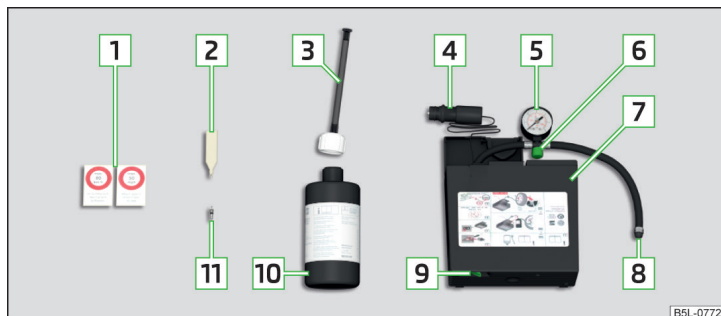

Fig. 124 Description of the breakdown kit
- Insert the valve remover **2** » Fig. 124 on page 112 on the valve insert, so that the valve insert fits into the slot of the valve remover.
- Forcefully shake bottle **10** » Fig. 124 on page 112 several times.
- Screw the tyre inflation hose **8** » Fig. 124 on page 112 firmly onto the tyre valve.
- Stick the sticker **[1]** » Fig. 124 on page 112 on the dash panel in the driver's field of view.